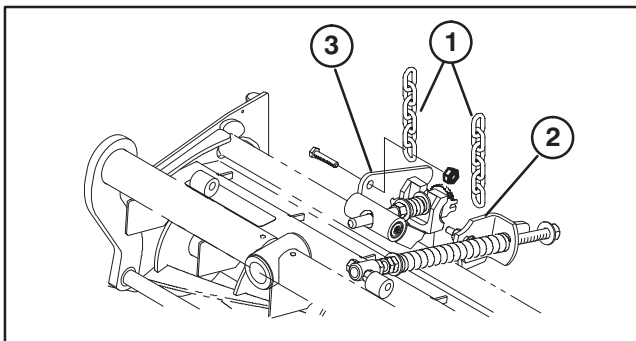

Figure 8
12. On front center cutting unit, remove nut securing turf compensation spring mounting bracket to left cutting unit stabilizer ear (Fig. 8). Insert left tipper chain onto capscrew and secure with nut removed.
13. Secure right tipper chain to right cutting unit stabilizer ears with a 3/8–16 x 1" lg capscrew and flange nut supplied in loose parts (Fig. 8).